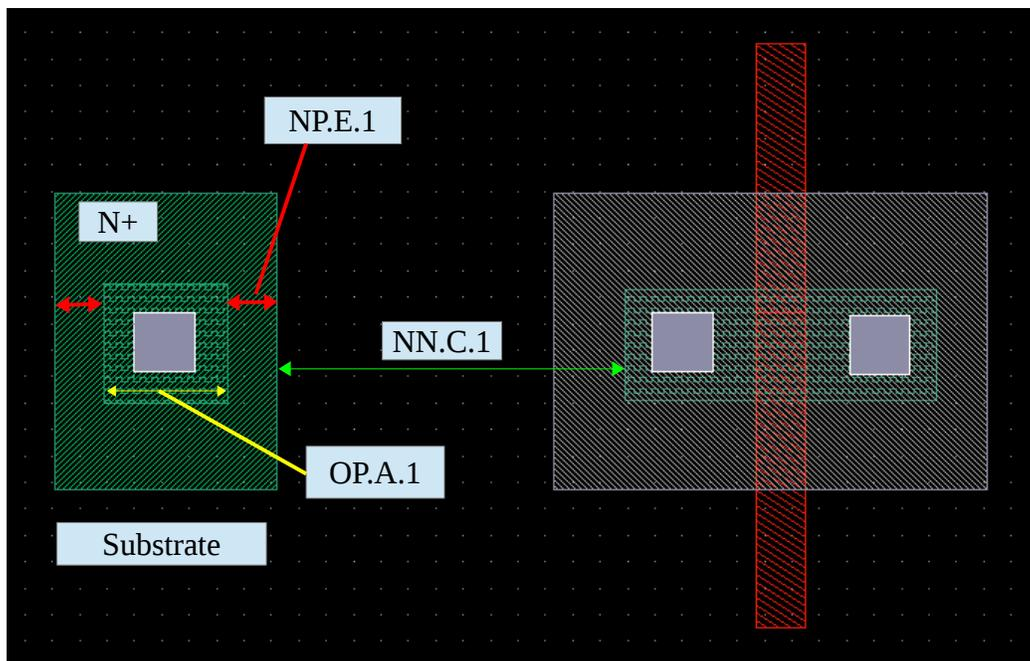

Fig. 5: Creating PMOS substrate.
11. Select the “**contact dwg**” layer; draw a square contact (**CO.E.1**) as depicted in Figure 5.
13. Find the minimum overlap from N+ to its active (OD) region (**NP.E.1**) on page 33.
15. Find the minimum clearance from p plus active region (grey) to n plus region (green) (**NP.C.1**) on page 33. See the green arrows in Figure 5.